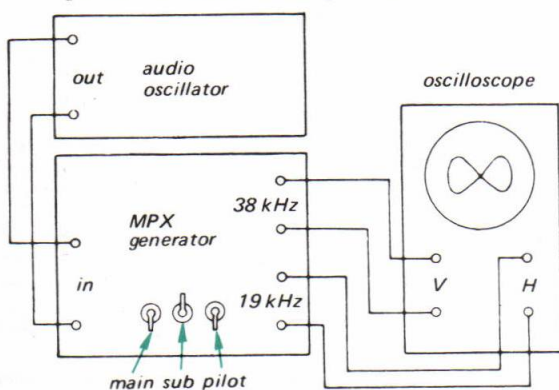

Fig. 3-11. MPX generator preadjustment
1. With the equipment connected as shown in Fig. 3-11, set the MPX and audio signal-generator's control as follows: